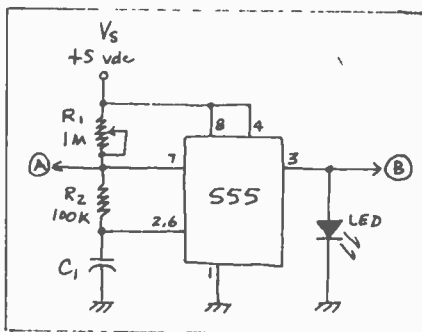

FIG. 1
Figure 1 shows the basic 555 unit. The LED flashes once for each timing interval or period (T), and that interval can be varied from milliseconds to several minutes by the value of  $C_1$  and the setting of  $R_1$ . Table I shows the values of  $C_1$  that produce ranges including certain useful T values.